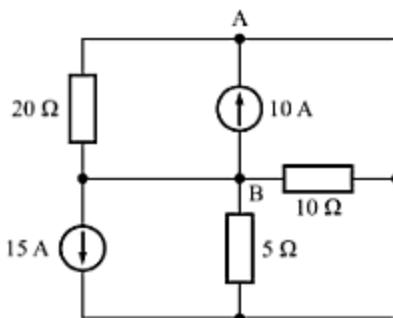

Fig. A-98
- A-62.** In the circuit of Fig. A-98, find the current through  $10\Omega$  resistor.